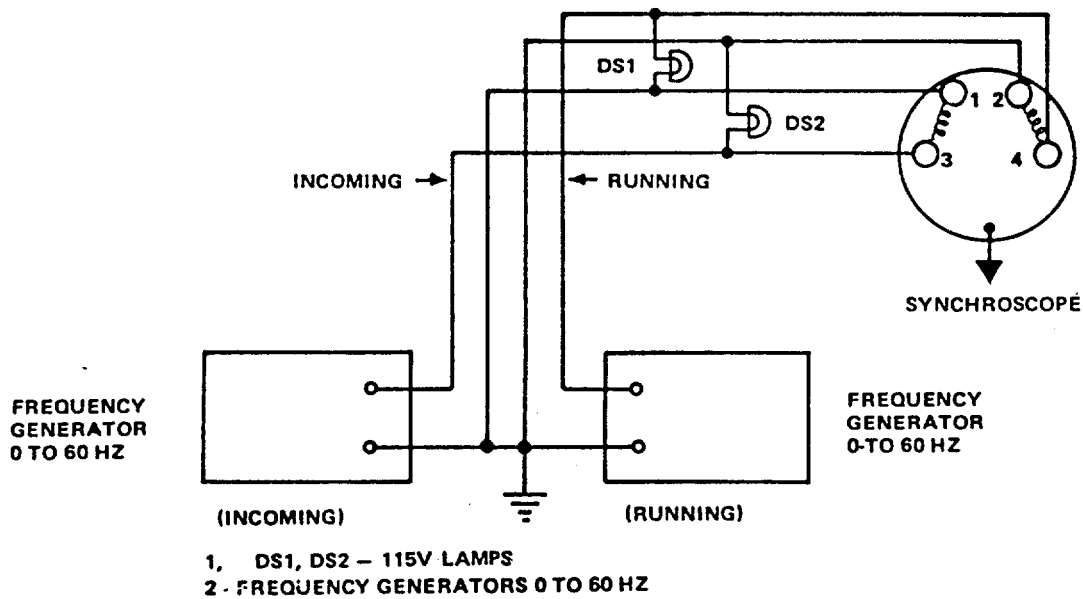

Figure 5-17. Synchroscope, Test Setup
- (1) Connect the synchroscope as shown in figure 5-17 test setup. Frequency generators used should be capable of providing minimum 50 volts, maximum 240 volts. Frequency 0 to 60 Hz. For testing the pull-in frequency is 48 Hz, the drop-out frequency is 47 Hz.
- (2) The synchroscope axial polarizing coils are energized from the 'incoming' frequency, while the radial field coils are connected to the 'running' circuit. If there is no difference between the two circuits either in phase angle or frequency, the pointer will remain motionless at the 12 o'clock position on the dial. With no frequency difference, any phase angle difference will cause the pointer to take up a position away from this point. If, however, there is a difference in frequency, this phase relationship will be constantly changing and the pointer will consequently rotate continuously in one direction or the other at a speed corresponding to the difference in frequency. If 'incoming' is at a higher speed than the 'running', the pointer rotates clockwise, and counterclockwise if its speed is lower.
- (3) When the lamps turn off together, the two sources are synchronized. When the 'incoming' frequency has been adjusted to equal that of the 'running' frequency, the pointer will come to rest at a point on the scale depending on the phase displacement of